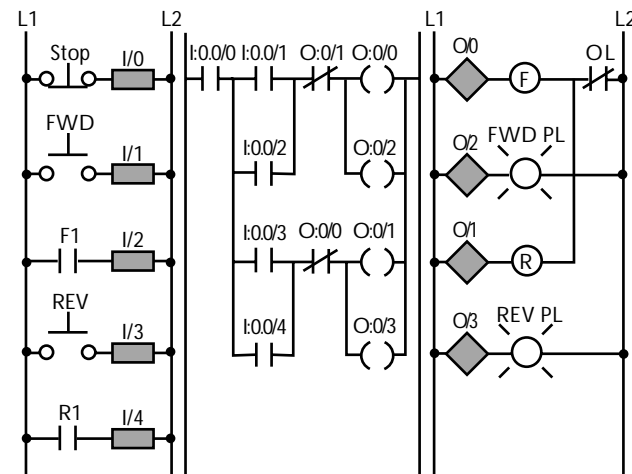

Figure 3-26. Ladder program that implements the forward/reverse circuit.
**Ladder Programming.** Figure 3-26 shows the ladder program that will implement the forward/reverse motor circuit. The top two lines of the diagram control the forward motor starter and forward pilot light. The coils and contacts in the first line turn on the forward starter. This line starts out with an XIC contact that references the stop push button. The next contact is an XIC contact that maps the forward start push button. The final contact is an XIO interlocking contact that references the reverse starter output. This contact provides interlocking so that the forward starter will not turn on while the reverse starter is energized. When all of these inputs conditions are satisfied, the forward starter and the forward pilot light will turn on. When they turn on, the F1 auxiliary contact mapped to input I:0.0/2 will seal the circuit so that the forward starter remains on even if the forward push button is released. Pushing the stop push button will stop the forward motion of the motor.
**Compelling Circuits.** In the circuit shown in Figure 3-26, the forward and reverse starters are interlocked so that one cannot turn on while the other is operating. However, the way the